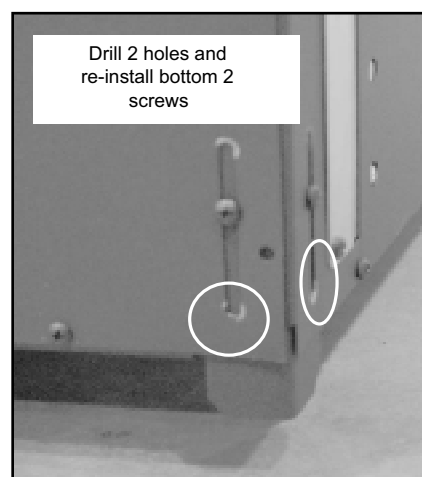

Figure 16.5
4. Drill 2 holes for the bottom 2 screws and re-install screws. **Figure 16.5.**